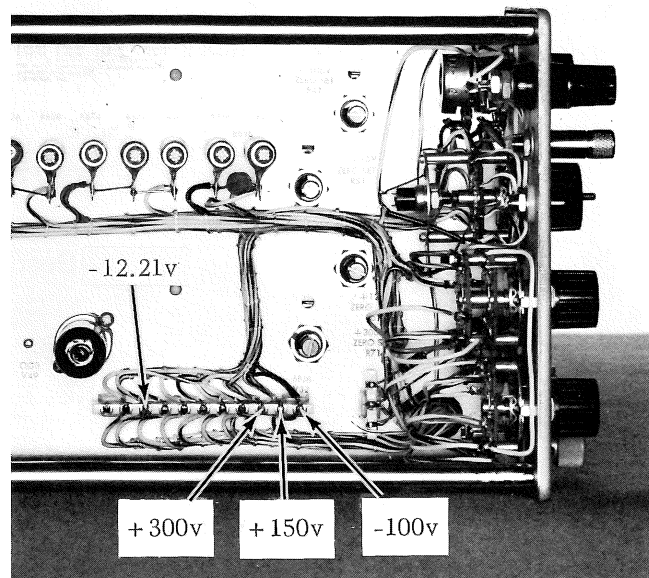

Fig. 1. Internal test points for 560 Indicator regulated power supplies.
3. With the differential voltmeter, measure and record the voltage of each of the remaining regulated supplies. See Figure 1. Place the FULL LOAD NO LOAD switch in FULL LOAD when measuring the -12.21 volt supply and at NO LOAD when measuring all other supplies. Then calculate the percentage error from the voltage required. Now observing each of the supplies in turn on the test oscilloscope, adjust the appropriate ZERO SET potentiometer for the crt deviation in percent equal to the calculated percent error. Thus the TU-4 power supply monitoring circuit references can be established at the correct value. A more accurate setting may be obtained by pressing the PUSH TO REMOVE RIPPLE button.